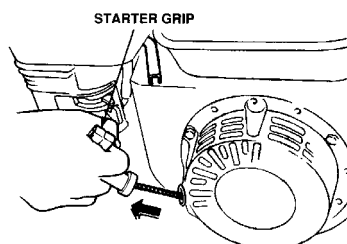

Figure 12. Starter Grip
3. Grasp the starter grip (Figure 12) and slowly pull it out. The resistance becomes the hardest at a certain position, corresponding to the compression point. Pull the starter grip briskly and smoothly for starting.